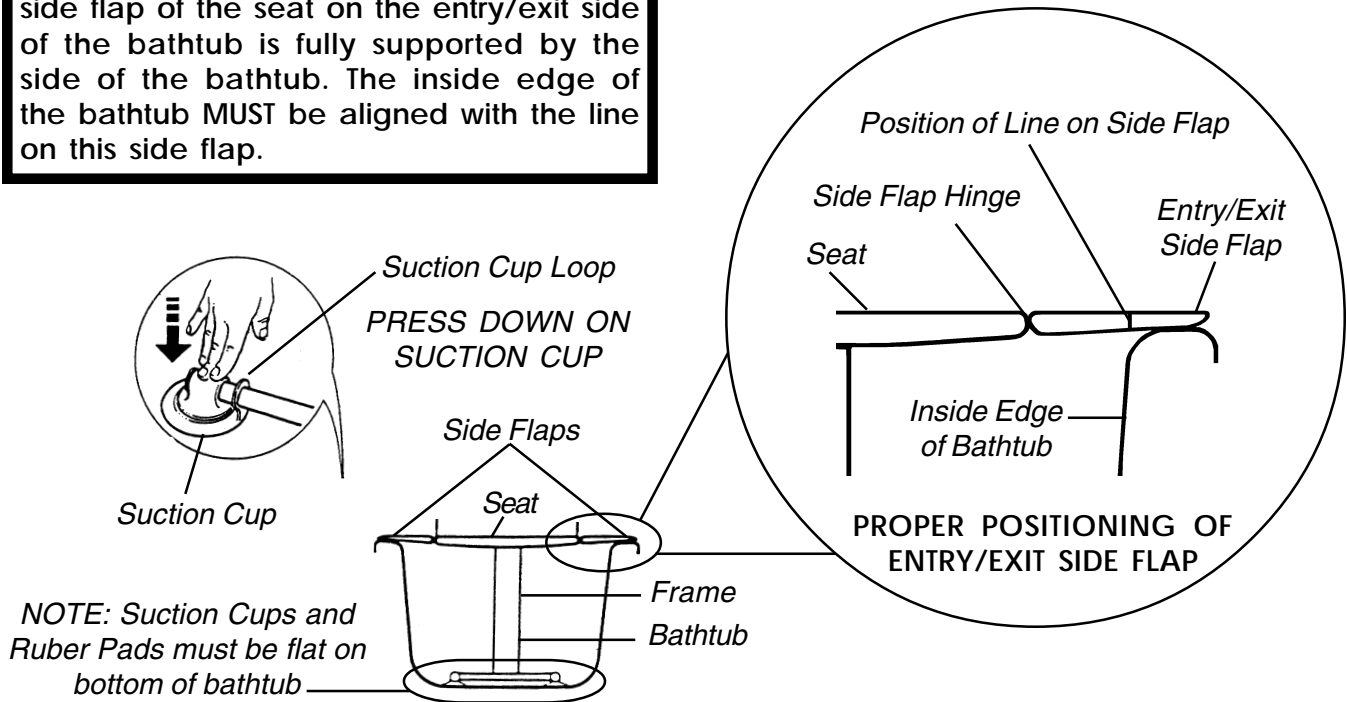

FIGURE 19 - POSITIONING THE BATH LIFT IN THE BATHTUB
Positioning the Bath Lift Frame in the Bathtub (FIGURE 19)
1. Position the frame to align the line on the entry/exit side flap with the inside edge of the bathtub as shown in the FRONT VIEW of FIGURE 19.